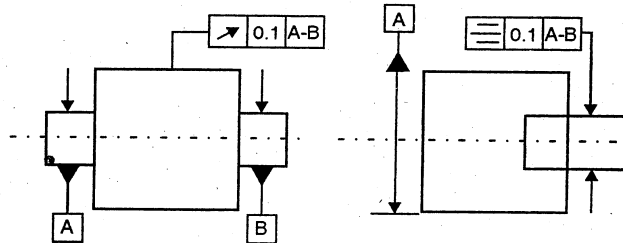

Fig. 1.
b) State the meaning of symbol shown in Fig.1.